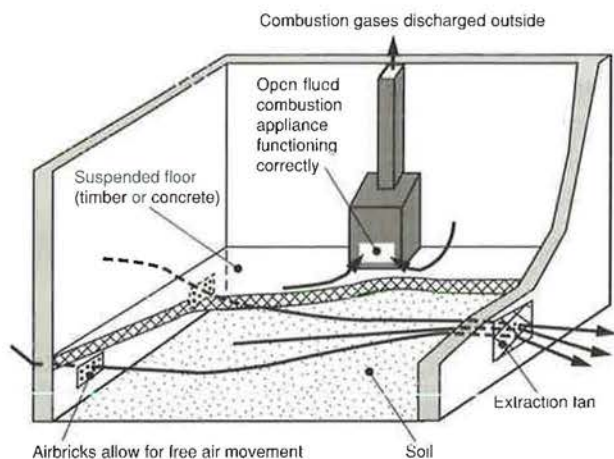

Figure 3 Underfloor extract ventilation and combustion appliance operating correctly
- Ensure that airbricks surrounding the property are open so that air can enter the void from outside, and check that the airbricks are adequately sized. As an approximate guide, there should be a free, open area of 1500 mm² per metre run of exterior wall, or of 500 mm² per square metre of floor area: use whichever criteria give the largest open area. Ideally air should move across the void from one side to the other, ie fans and airbricks are best located on opposite sides of the dwelling to each other (see Figure 3)